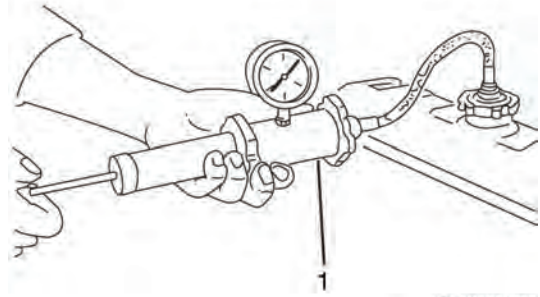

Figure 303
1. With the radiator properly filled, install a cooling system tester (1, Figure 303).